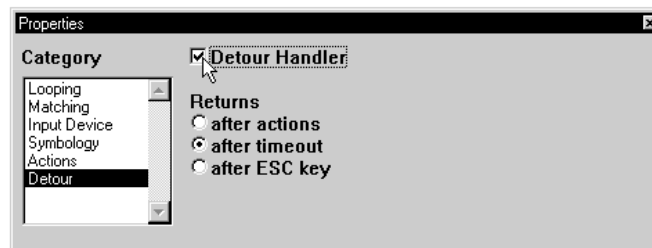

Figure 4-44 Properties Window - Detour Handler Selected
17. Click the Detour Handler selection box to make the selected Input Handlers into Detour Handlers (Figure 4-44).